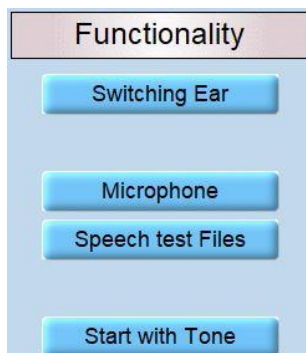

Figure 93
**Switching Ear:** Activate to **Keep Level + Noise** or deactivate to **Reset Level – Switch Off Noise** (default) when switching ears (Figure 93).